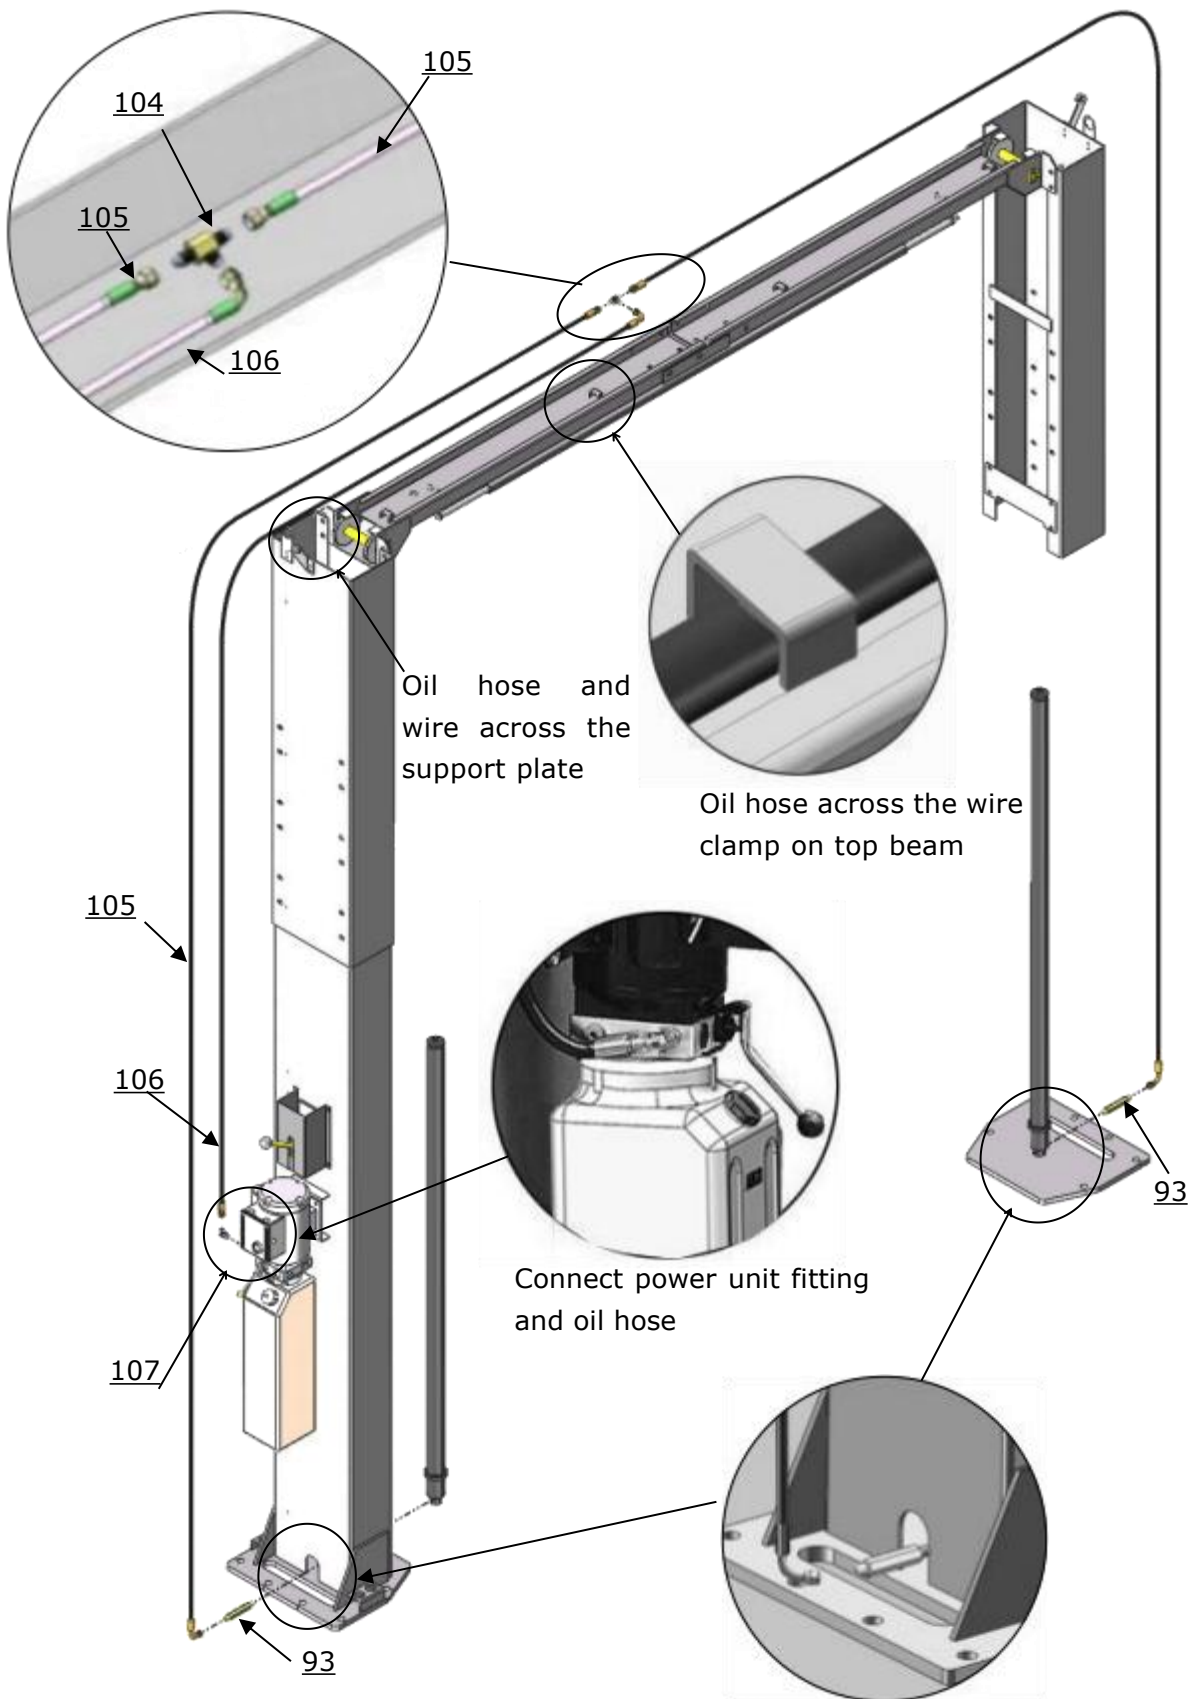

Fig. 37
1. Oil hose installation of low setting.(Fig.37)